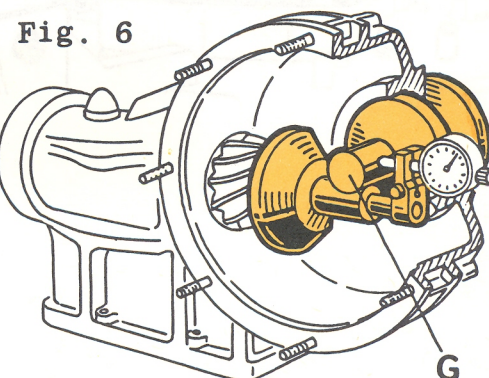

Fig. 6
- 4 Place the dial gauge support in position as shown at fig. 6 and move it back and forth until the highest "lift" on the dummy shaft "G" is found.